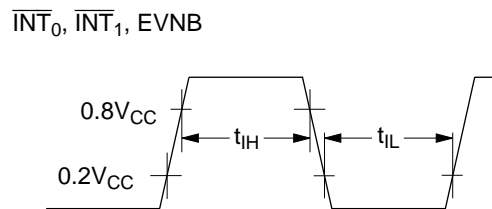

Figure 78 Interrupt Timing
- Refer to figure 78.
3. Refer to figure 78.